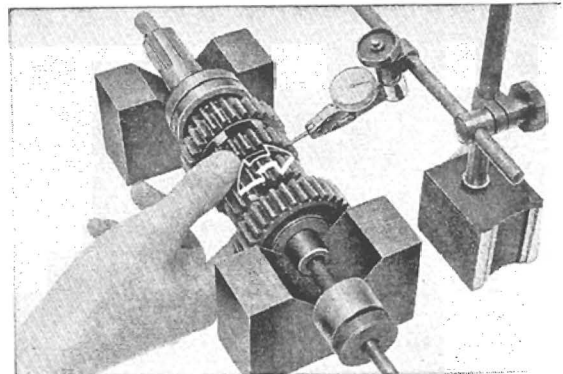

Fig. 3.111 Measuring spline clearance
① Main shaft outside diameter
2. Spline clearances M to M2-3, C to C4 and C5 (Fig. 3.111)